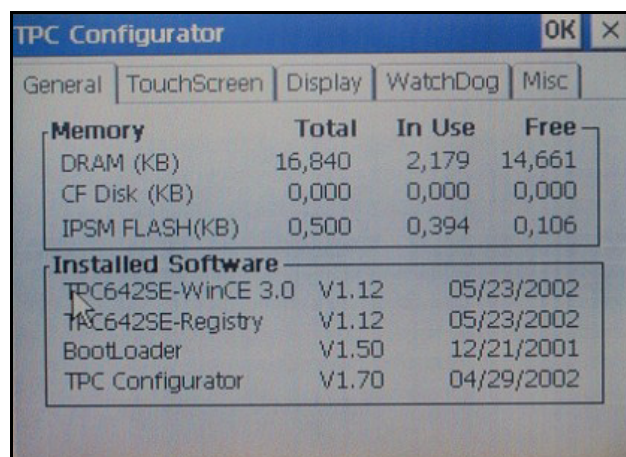

Figure 6-21
- The next step will depend on which version of Windows CE is running on your front panel. To determine this, double press the “TPC Configurative” icon and the window shown in Figure 6-21 will appear. If there is a “Display” tab at the top of the window, as shown in Figure 6-21, follow the steps in Section 6.4.1. If there is not a “Display” tab on the top of this window, follow the steps in Section 6.4.2.